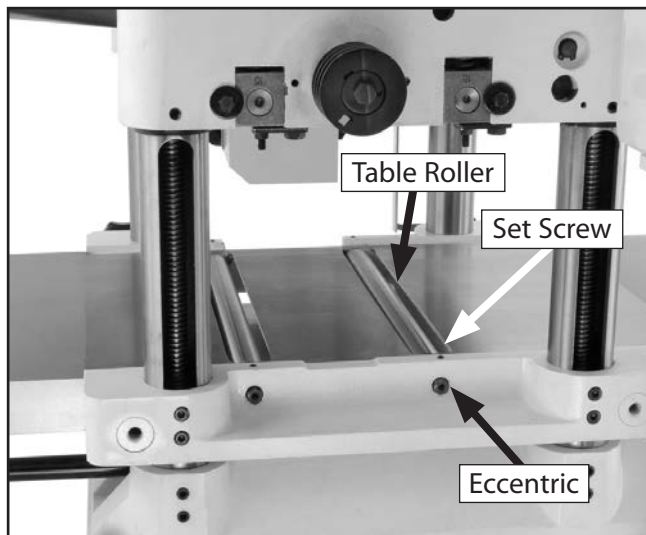

Figure 12. Table roller adjustment locations.
2. Loosen the table-roller set screws and turn the eccentrics until the table rollers fall below the table surface. Refer to **Figure 12** for locations.